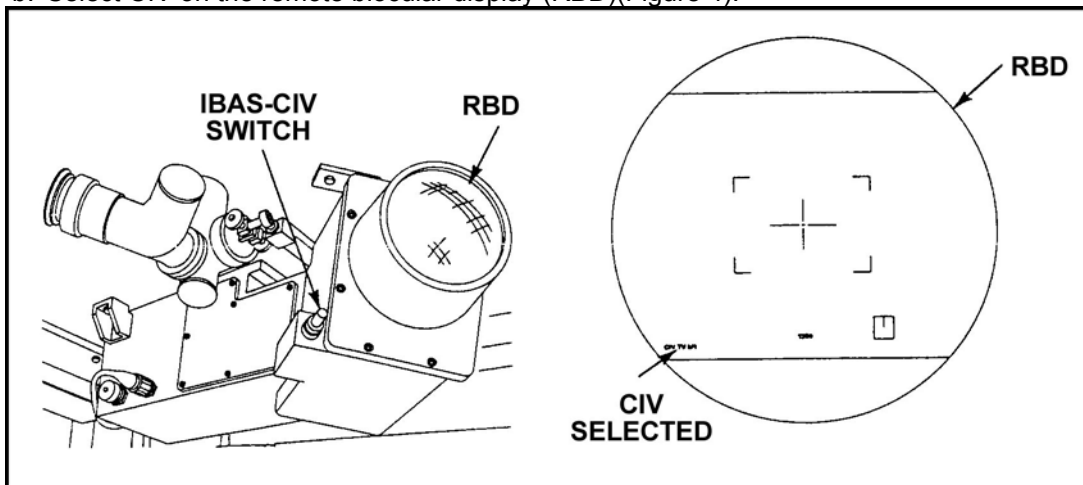

Figure 4. Remote biocular display.
- (3) Ensure the UNSTOW indicator light is lit.
- (4) Release the palm switches.
- b. Select CIV on the remote biocular display (RBD)(Figure 4).